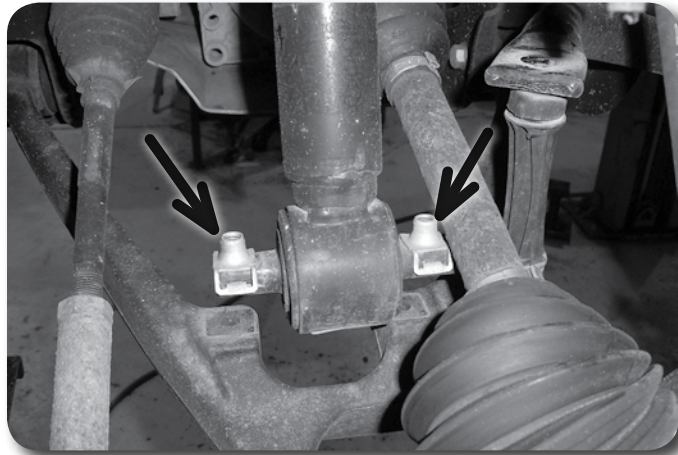

Figure 6
9. Using a flat head screw driver, remove the factory nut clips from the strut bar pins. **Figure 6** These will not be reused.